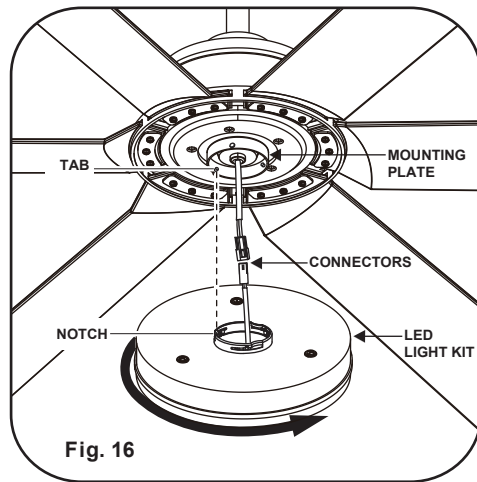

Fig. 16
1. While holding the LED light kit under the fan motor assembly, click together the wire connections. (Fig. 16)